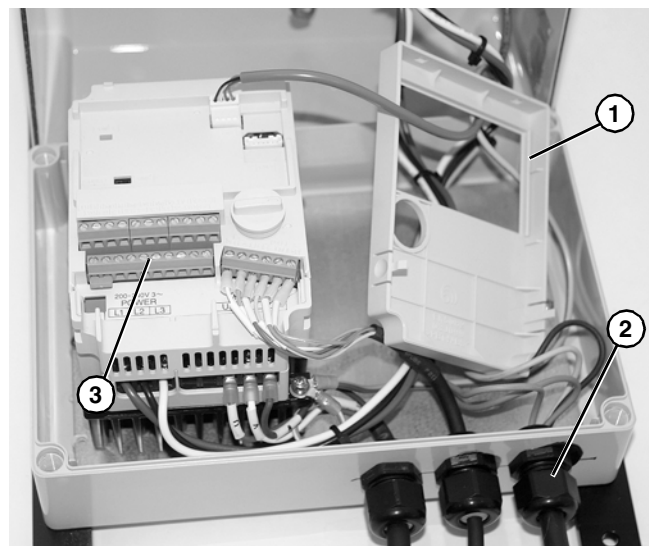

Figure 22
- Remove controller cover (**Figure 22, item 1**).
- Install cord grip, not provided (**Figure 22, item 2**).
- Insert external signal wires to terminals (**Figure 22, item 3**). See “External Input Signals” on page 12.